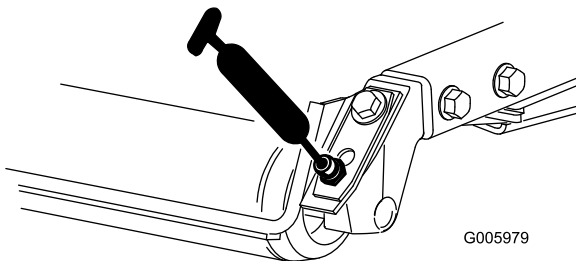

Figure 37
- Rear roller bearings (2 per mower deck) as shown in Figure 37